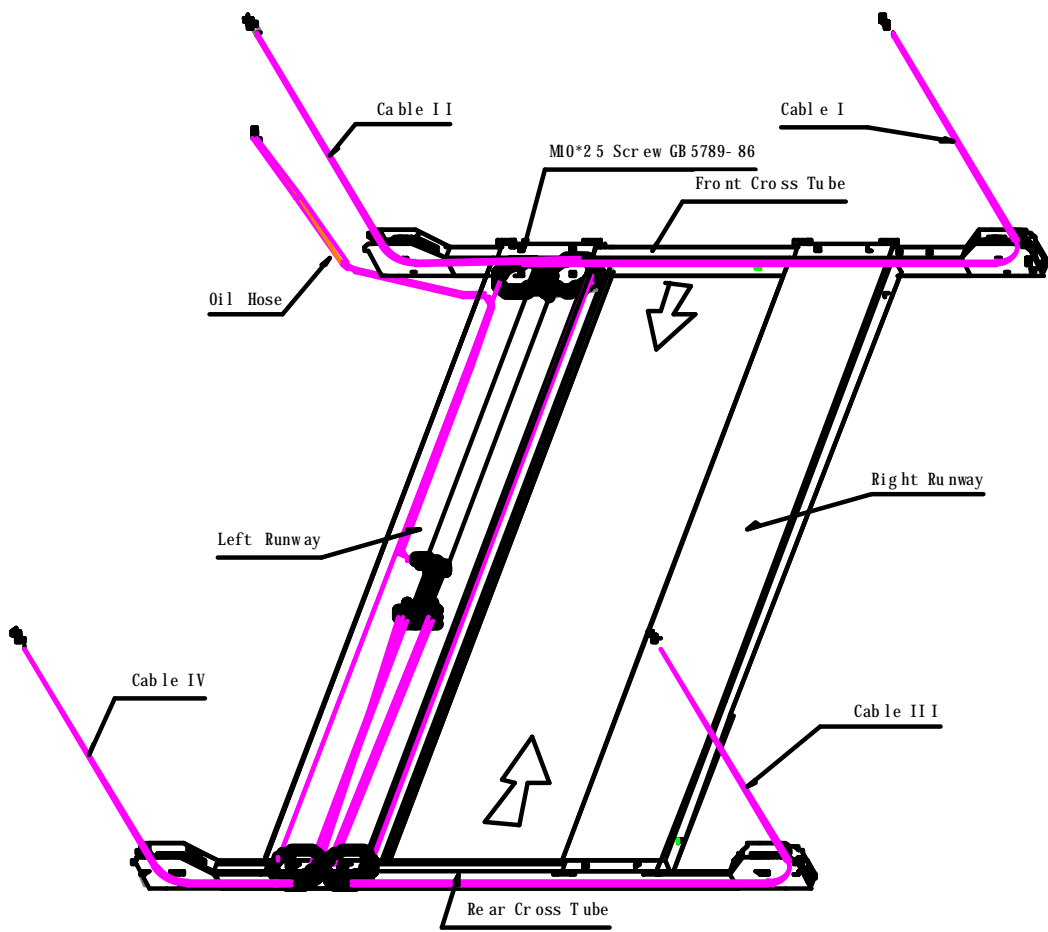
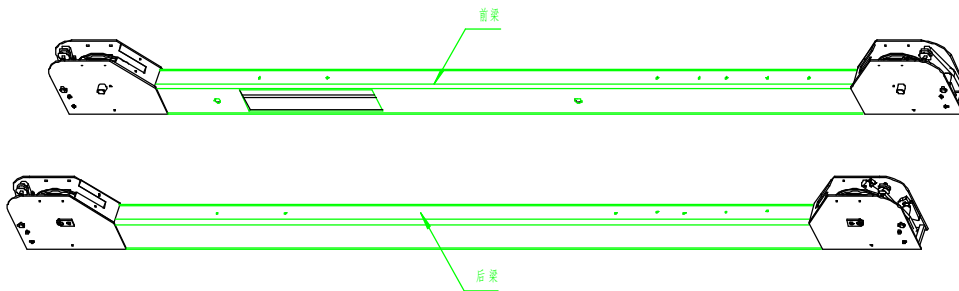

Fig.7
Fig.8
- I Position front and rear cross tubes at respective ends of runway (see Fig.7 and Fig.8). The opening in the side of the tubes should be lined up with the cable sheaves in the runway ends. Feed cable ends through tube opening and do